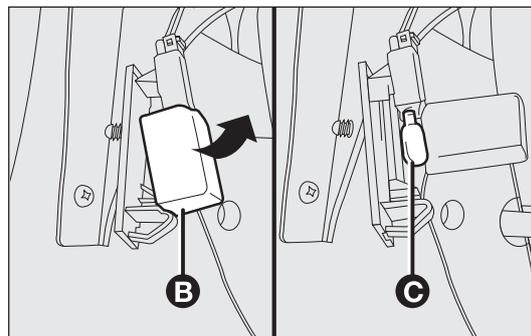

fig. 164
- open the bulb cover B-fig. 164 and replace the pressure-fit bulb C;